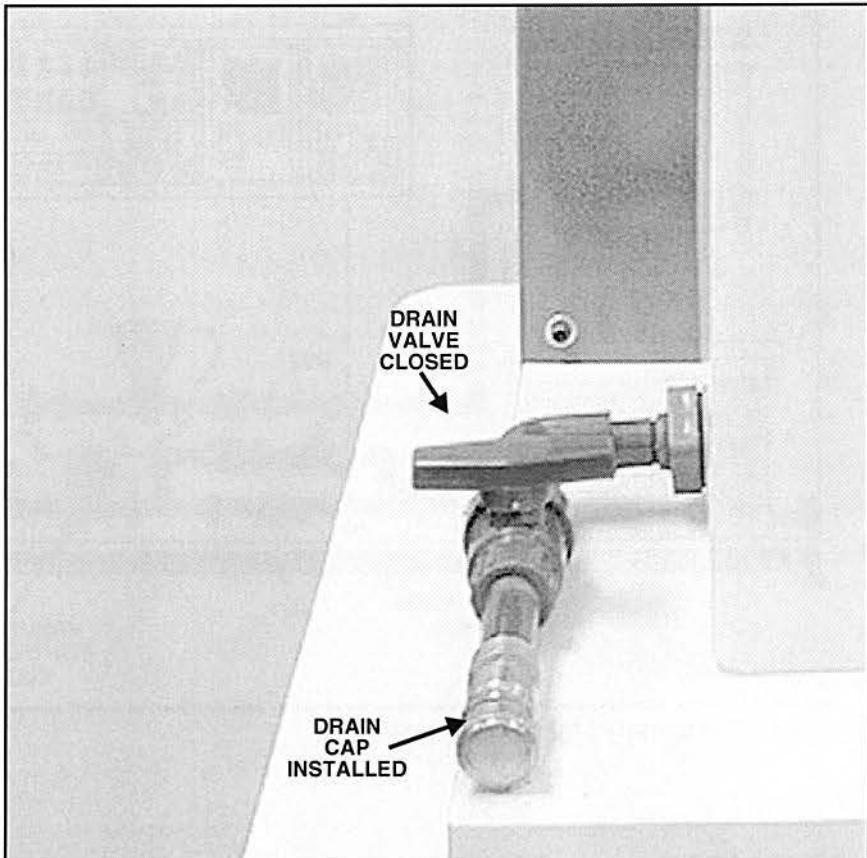

Figure 47. The Drain Valve Closed and the Drain Cap Installed
- A. Make sure the reservoir drain valve is closed and the drain cap is in place, as shown in figure 47.